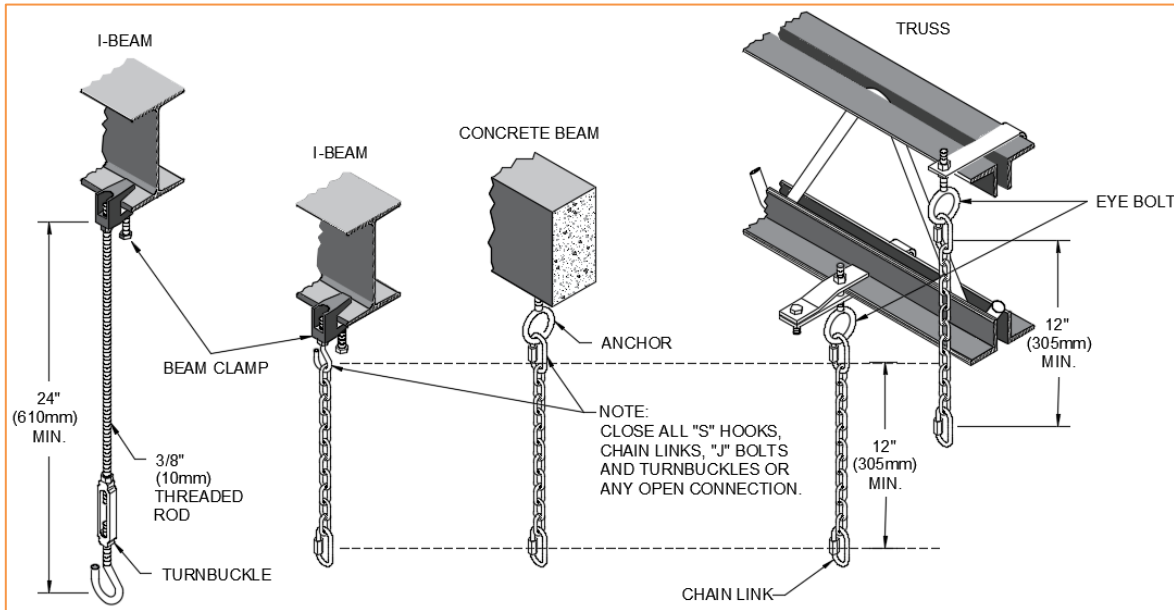

Figure 7: Suspension Mechanism
- Suspension mechanism must allow for lateral tubing expansion. A minimum 300 mm (12") length welded link chain with a working load limit of at least 90 kg (200 lbs) is recommended (refer to Figure 7 for more details). **Manufacturer recommends and makes available “quick links” for connecting chain. If any open ended “S” hooks and turnbuckles are used, the open ends must be closed to avoid unhooking chain with inadvertent contact.**